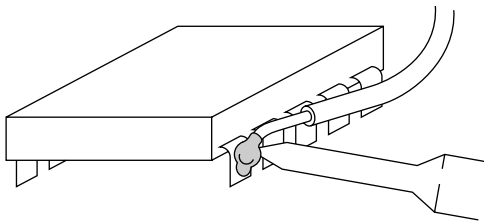

FIGURE 8-20: Feeding stripped wire wrap wire into reheated solder bump
4. Just as in the example of soldering to the cleaned printed circuit trace, the solder blob is heated and the stripped end of your wire-wrap wire is fed into the hot mass (see Figure 8-20).